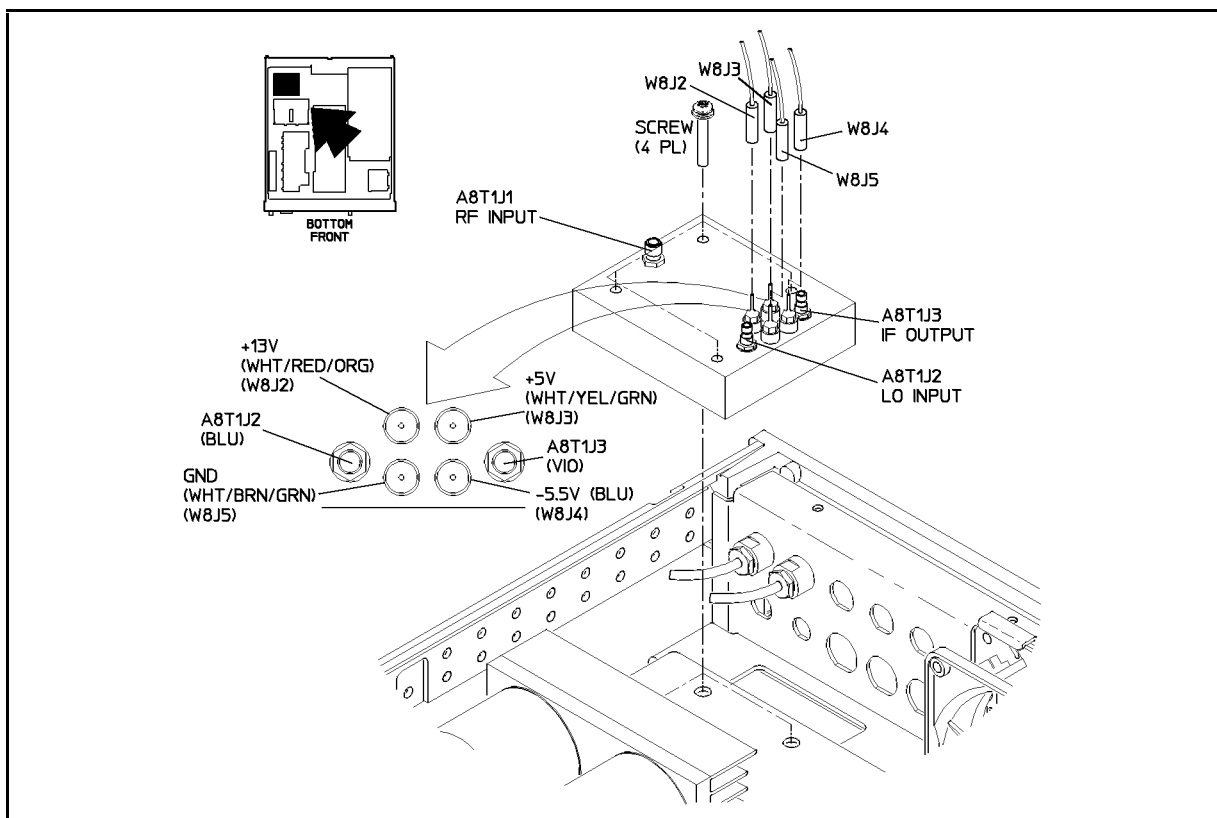

Figure 5-26. Sampler Removal
3. In the “Special Techniques” section of this chapter, refer to “Semi-Rigid Coaxial Cables” and Figure 5-26. Then, using a 5/16 in open end wrench, carefully remove the semi-rigid cable, W40, from the output module SAMPLER OUT connection and the Sampler RF INPUT connector.
4. Disconnect the four single wire lead contacts from the DC cable to the Sampler. See Figure 5-26:
5. Refer to “Flexible Coaxial Cables” and Figure 5-26. Then, using a 15/64 in end wrench, carefully remove the following cables from the SMC connectors:
6. Using a size 10 TORX® screwdriver, remove the four screws securing the Sampler to the microwave deck as in Figure 5-26.
Caution Some sampler microcircuit assemblies may have an incorrect wire hookup label attached to the bottom side. **Ignore all label hookup instructions.** Refer to Figure 5-26 for the correct wire configuration. Damage to the sampler and/or other circuits in the synthesizer will result if the wires are not configured properly.
1. Install the Sampler Microcircuit by loosely mounting it to the microwave deck with four mounting screws as shown in Figure 5-26. Do not tighten the mounting screws.